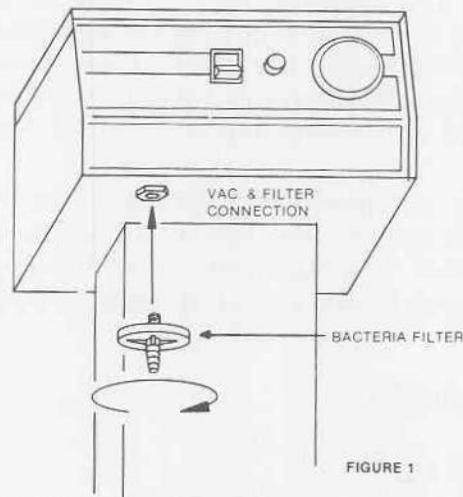

FIGURE 1
2.2 BACTERIA FILTER (See Figure 1)